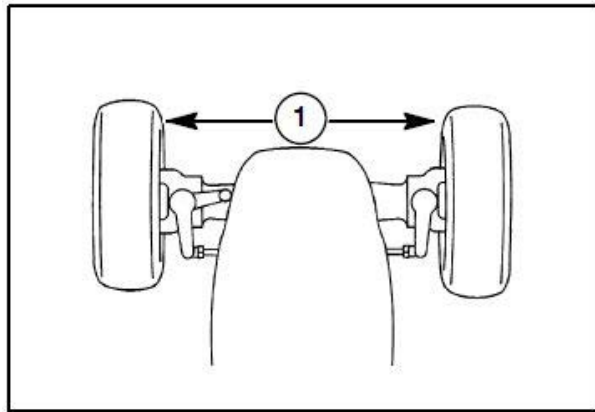

Figure 3-47
1. With the front wheels in the straight-ahead position, mark the front of the wheels (1) in Figure 3-47, (not the tires) at wheel hub height.